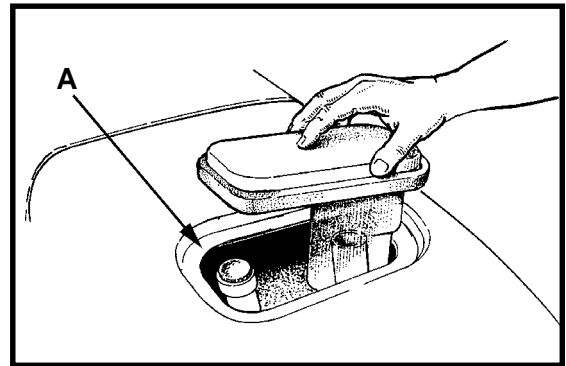

Figure 1
2. Make sure the recovery tank lid is on correctly. See figure 1.
3. Make sure the Screen filter over the vacuum motor is clean and in position. See figure 1 (a)
CAUTION: Make sure water or solution does not enter the opening for the vacuum motor. See figure 1, page15.